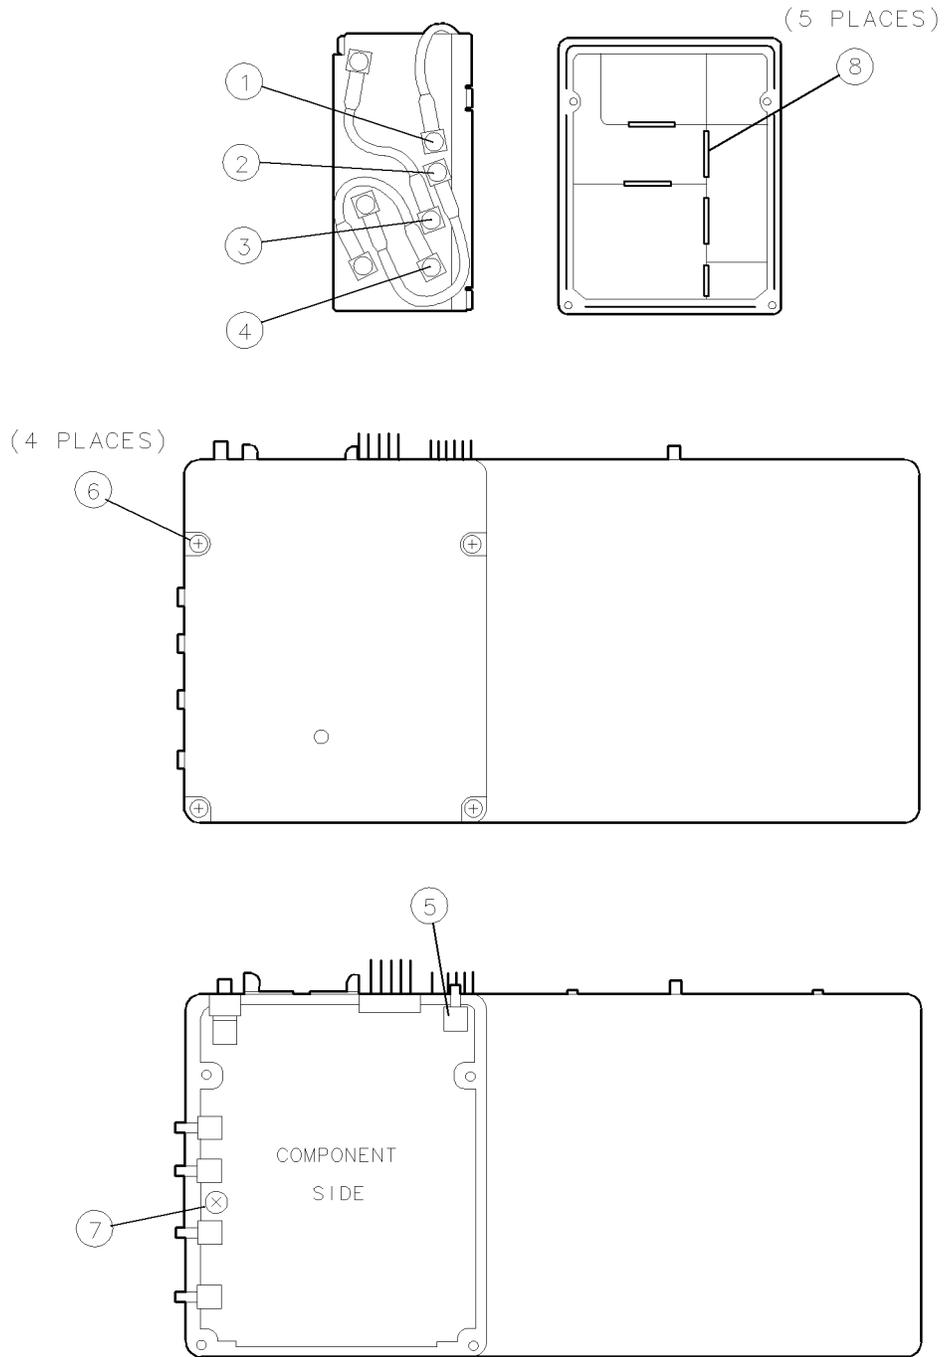

Figure 9-16.
2. Disconnect cables ①, ②, ③, and ④ from the A7A1 FFS phase lock loop. See Figure 9-16.
3. Disconnect cable A7W5 from the assembly jack ⑤.
4. Remove the four screws ⑥ and with the cover side down remove the assembly from the cover. The nonconductive, rubber sleeves used on this cover sometimes stick to the VCO casting. Locate all five sleeves and reserve them for reassembly.
5. Remove the one screw ⑦ from the assembly, then remove the A7A1 FFS phase lock loop.
1. Position the A7A1 FFS phase lock loop in the casting and replace the one screw ⑦. Torque the screw to 6 inch-pounds.
2. Refer to Figure 9-16 for the location of rubber sleeves on the VCO cover ⑧. With the cover side down, position the assembly onto the cover (use the adjustment hole as a guide). Replace the four screws ⑥. Torque screws to 9 inch-pounds.
3. Reconnect A7W5 to the assembly jack ⑤.
4. Reconnect A7W4 ①, A7W1 ②, A7W3 ③, A7W2 ④.